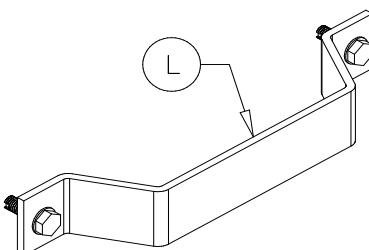

Figure 17
Note: The pivot arm guides (L) (see Figure 17) prevent the tarp from shifting to either side of the box when the tarp is in closed position.